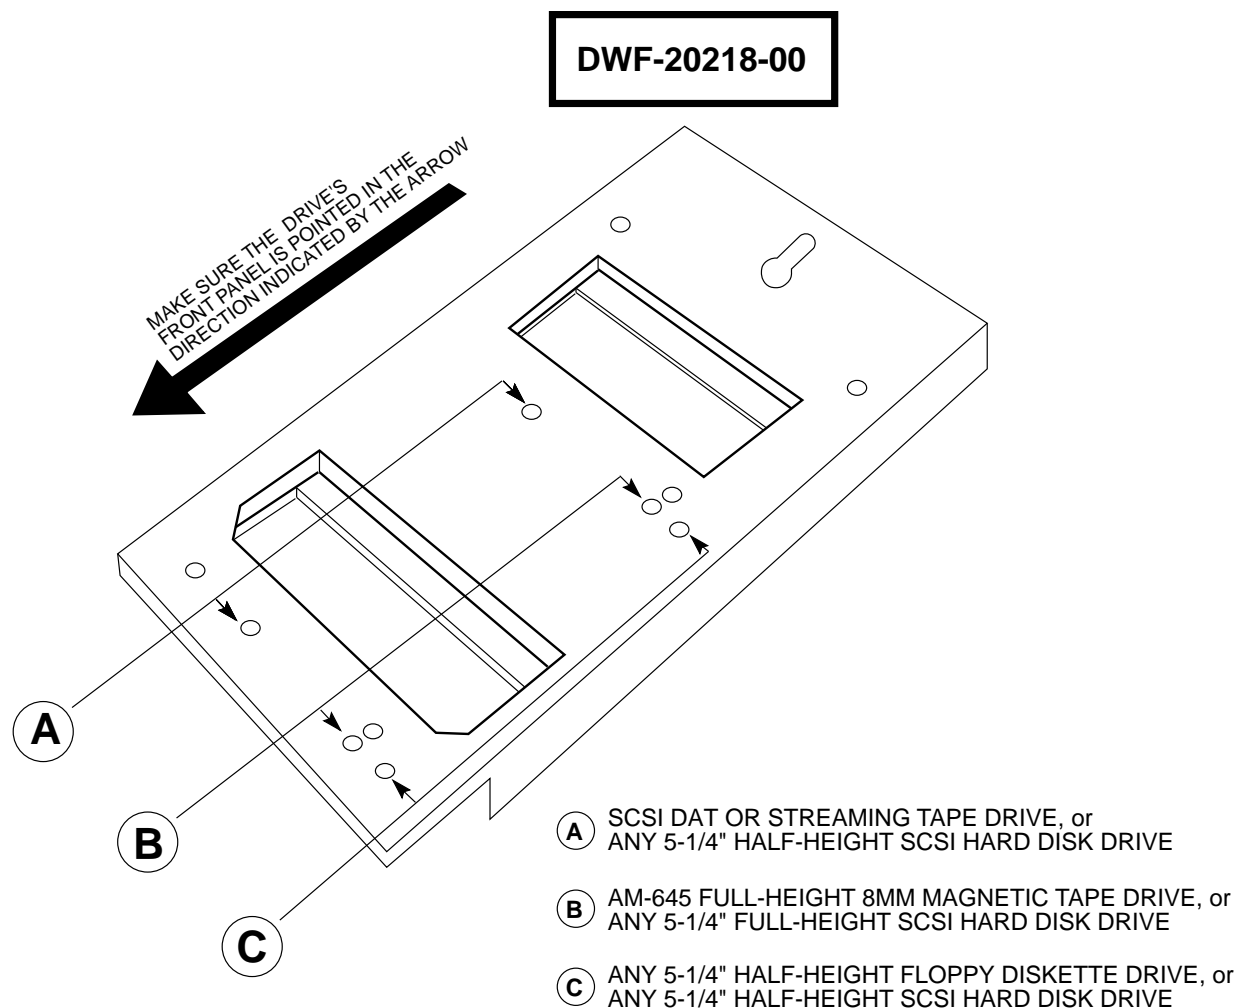

Figure 10 - Plastic Mounting Base
2. The DAT drive has several mounting screw-holes on its side rails, which align with corresponding holes in the plastic mounting base. Align the screw holes on the drive with the proper holes (marked as A in Figure 10) in the plastic mounting base. Make sure the drive's front panel is pointed in the direction indicated by the arrow in Figure 10.